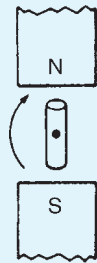

Figure 14.21
- In Fig. 14.21, at the instant shown, the generated e.m.f. will be: